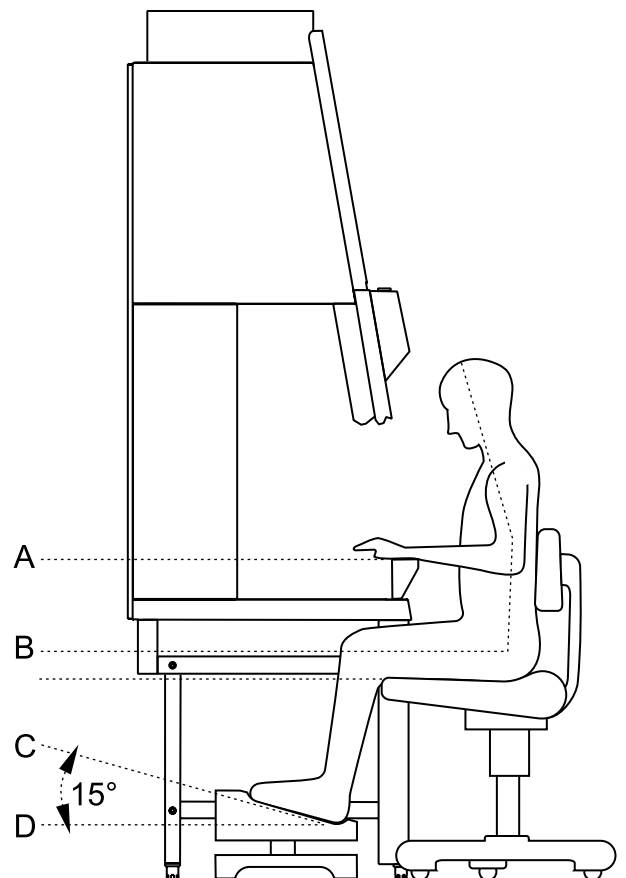

Fig. 19
**Fig. 19:** To prevent risks to health, a height-adjustable working chair with an adjustable seat back should be used during extended work periods at the safety cabinet.